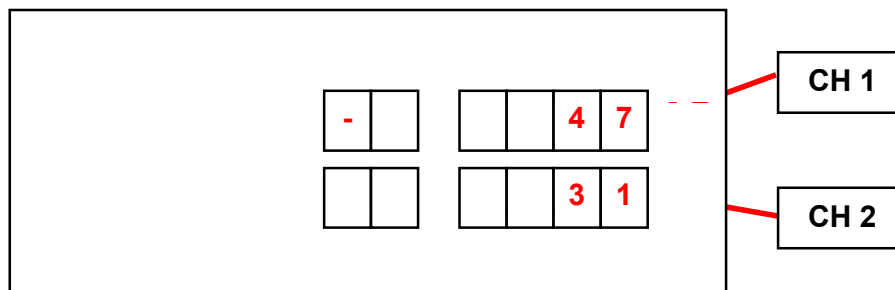

Figure 4.2
- Press [CON] to view the nose conditions. Display will be as per Figure 4.2.